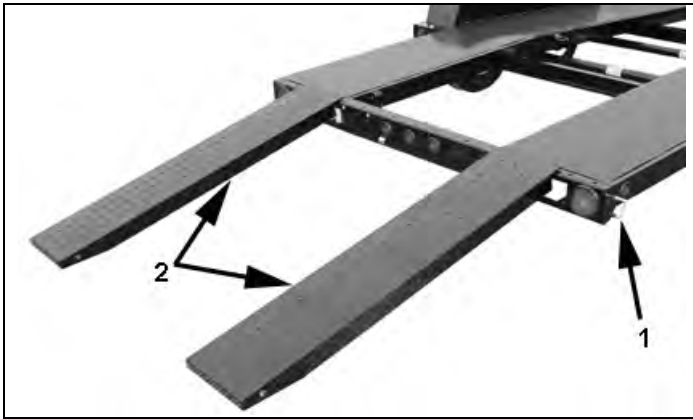

Figure 5-1 - Removable Ramps
- **Removable Ramps:** Release pin (1) and pull ramp (2) rearward. See figure 5-1. Place pins on ramps into holes on rear of trailer. Several holes are provided. Use holes as needed based on the width of equipment to load.